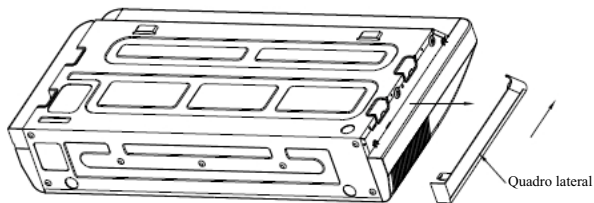

Fig.14
- Remova o quadro lateral(Consulte Fig 14)